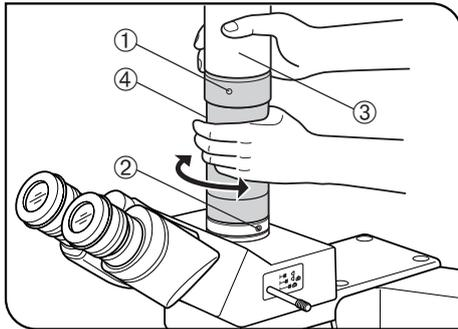

Fig. 3
**Con U-TV1X-2 o U-TV0.25XC (Fig. 3)**